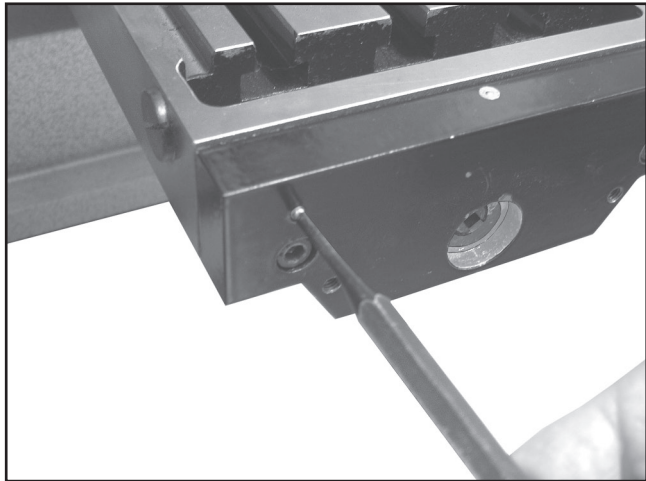

Figure 12. Pin reinstallation.
18. Reinstall the end plate, and drive the tapered pins in (**Figure 12**), so they are slightly recessed in the end plate face.